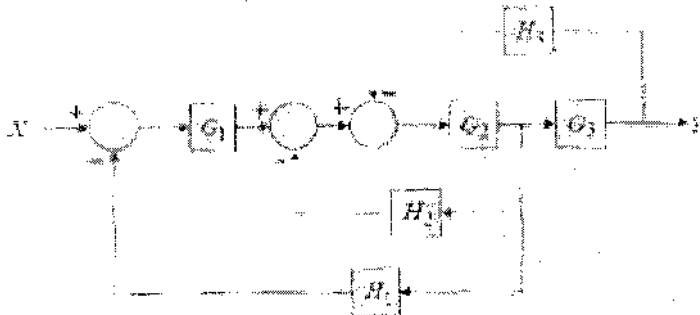

Figure Q.8 (a)
8. a) Simplify the block diagram given in Figure Q. 8 (a) and obtain the expression for Y/X. 8